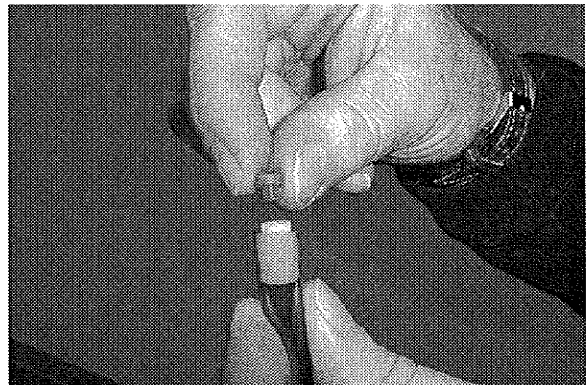

FIG. 38
- b. Remove metering tip from injector tube and clean tip. Do not use pointed objects such as pins and paper clips to unplug tips (Figure 38).